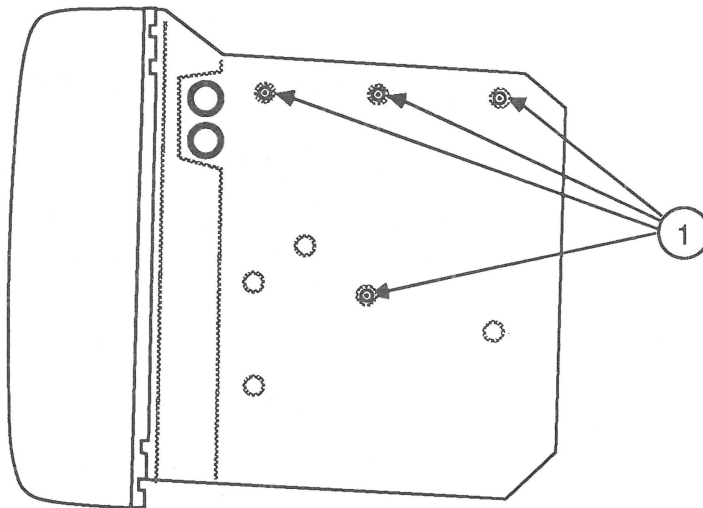

FIGURE 22
6. Replace the four screws (Figure 22, #1) that secure the main board to the chassis frame.